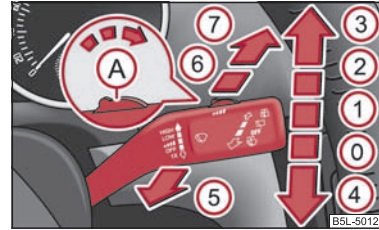

Fig. 50 Windscreen wiper lever
The windscreen wiper lever ⇒ fig. 50 has the following positions:
- If the slower ② ⇒ page 58, fig. 50 or the faster ③ wiper setting is switched on and the vehicle speed decreases to below 4 km/h, the lower wiper step is switched on automatically. At a speed increase of more than 8 km/h the previous wiper setting is established again.
- Push the operating level into the position ⑥ ⇒ page 58, fig. 50 five times in succession within 5 seconds.
The headlights are being cleaned after the windscreen has been sprayed for the first time and fifth time, the low beam or main beam are switched on and the windscreen wiper lever was held in the position ⑤ ⇒ page 58, fig. 50 for about 1 second.
- Then press the windscreen wiper lever in the position ④ ⇒ page 58, fig. 50 within 10 seconds - the wiper arms move into the service position.